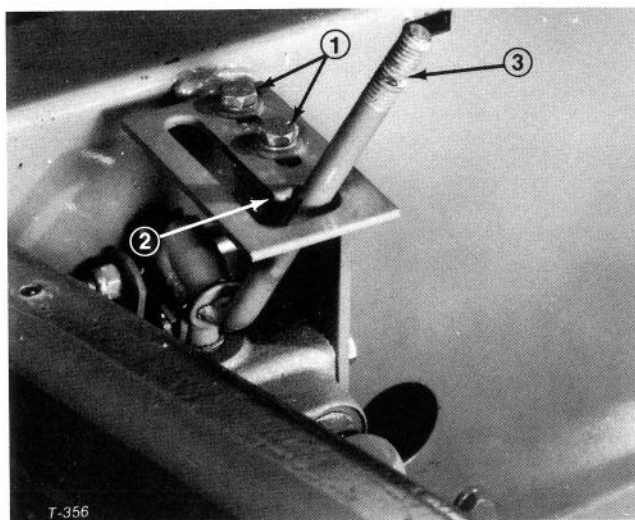

Figure 51
3. Loosen two capscrews on top of the lift lever latch (Fig. 51). Place lever on rounded tip of latch (Fig. 51), and slide latch w/lever forward until stopping resistance is felt. Then tighten the capscrews to lock the latch in place. Check for free operation of the lift lever by moving lever from RAISE or TRANSPORT to FLOAT position. Lift lever should just clear rounded portion of latch as lever is moved into FLOAT position.